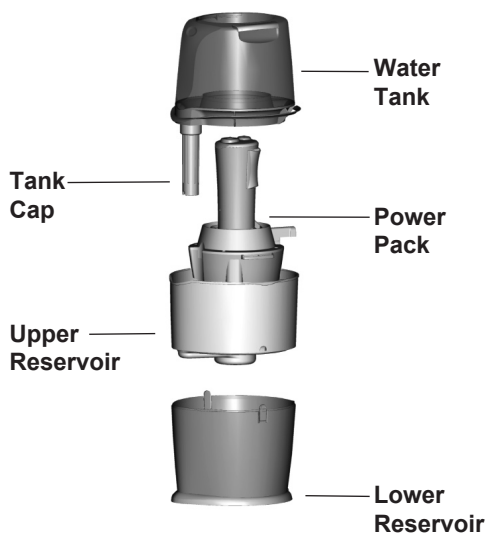

Figure 2
3. Remove the Lower Reservoir (marked with the number 2) from the Water Tank and Upper Reservoir (marked with the number 1). See Figure 2.